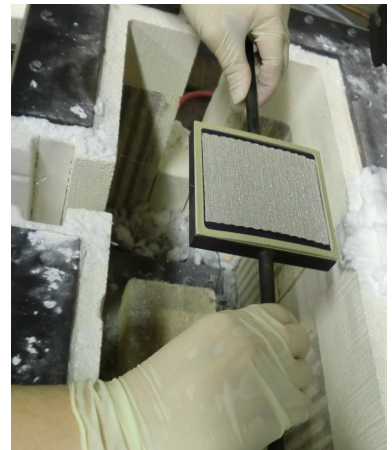

Figure 18
11. Place the anode manifold with cell into the furnace (Figure 18).